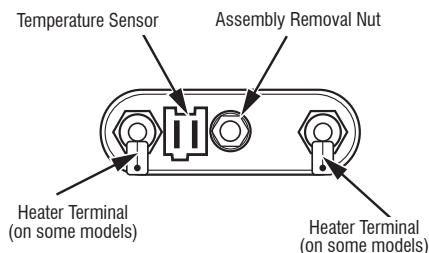

Figure 8 - Heater/Temperature Sensor Assembly
6. Disconnect the wire connectors from the heating element. See Figure 8.
6. Disconnect the wash temperature sensor connector from the heating element. See Figure 8.